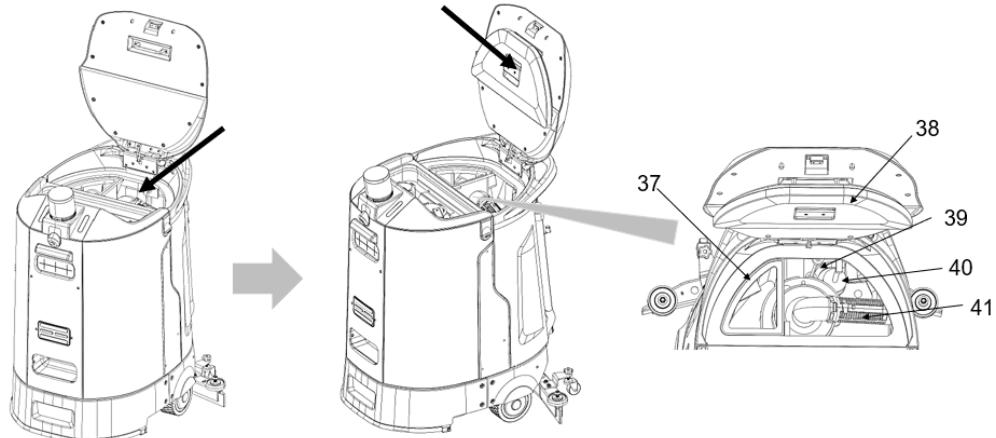

FIG.25
4. Remove the recovery tank lid and hang it onto the machine top cover as shown in FIG.25.
5. Remove the debris filter bag (37), empty and clean it.
6. Rinse the tank, float sensor (39), the filter (40) and the float shut-off screen (41).
9. Install the debris filter bag (37) back into the machine.